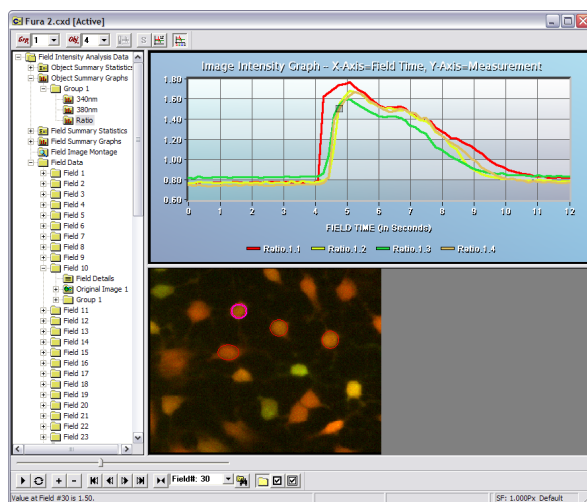

fig.4
8. Select **340nm**, **380nm** or **Ratio** under Group 1 in Object Summary Graphs (fig.4)
9. Choose **All** or **Average** ROI's from **Obj** drop-down menu. Click on any of the graph to split the data in dual view (fig.4). You can also click + drag on any part of the graph to zoom in.